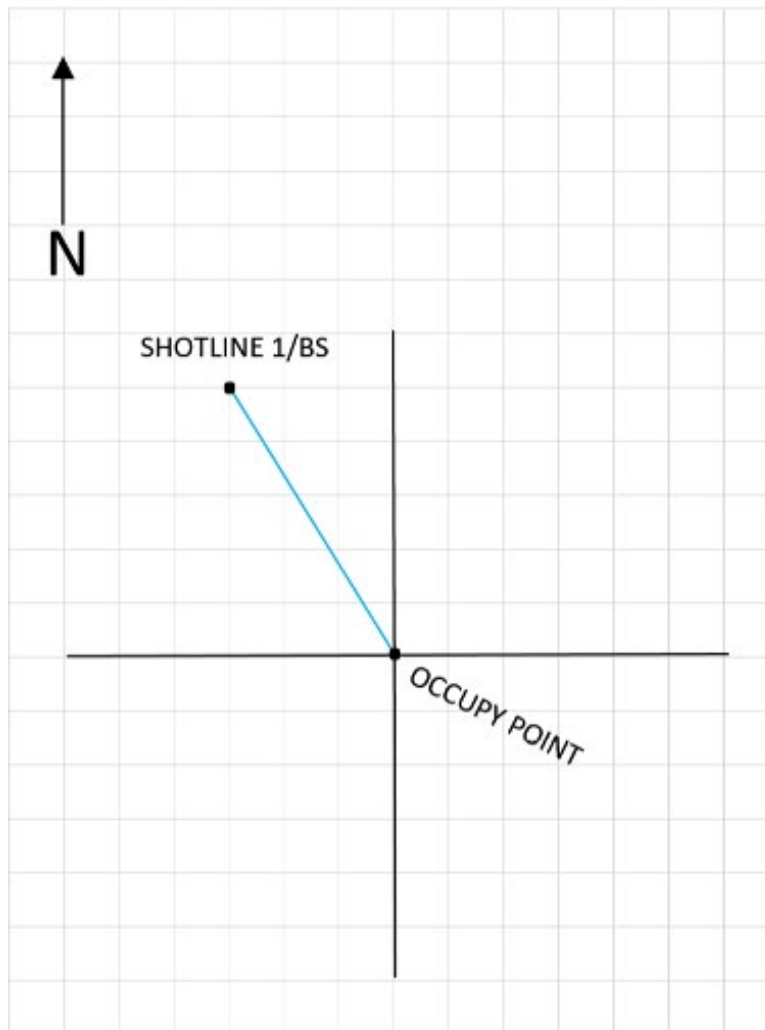
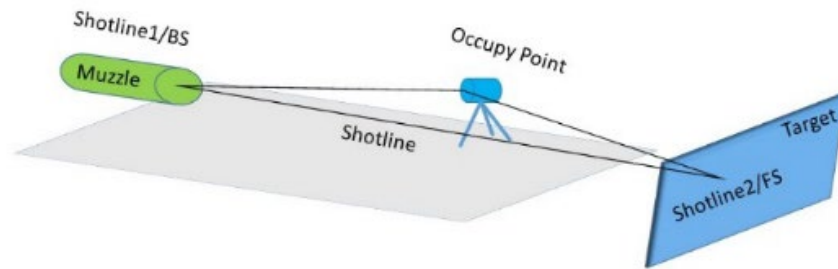
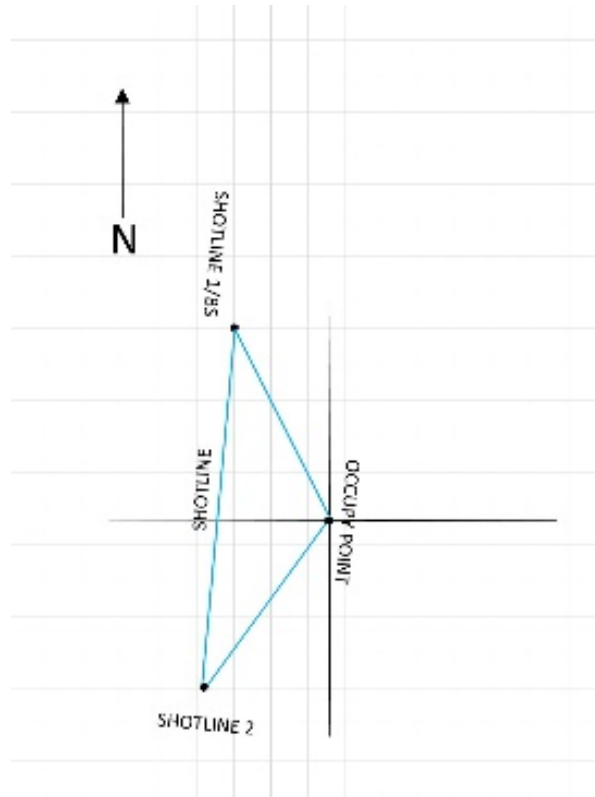

Fig. 4 Graph illustrating first two points
Fig. 5 Graphic representing the first three points
Fig. 6 Graph illustrating first three points
the target, the shot line (Fig. 4). This line shows the test setup based on the placement of instrumentation, yaw cards, and other parameters pertaining to the test in Fig. 5.
This section describes establishing the Foresight (FS), a third point in the survey process that will make up the second point of the shot line, thus completing the path in Figs. 4 and 5. This will establish the three points necessary to translate and rotate points in the next section (Fig. 6).